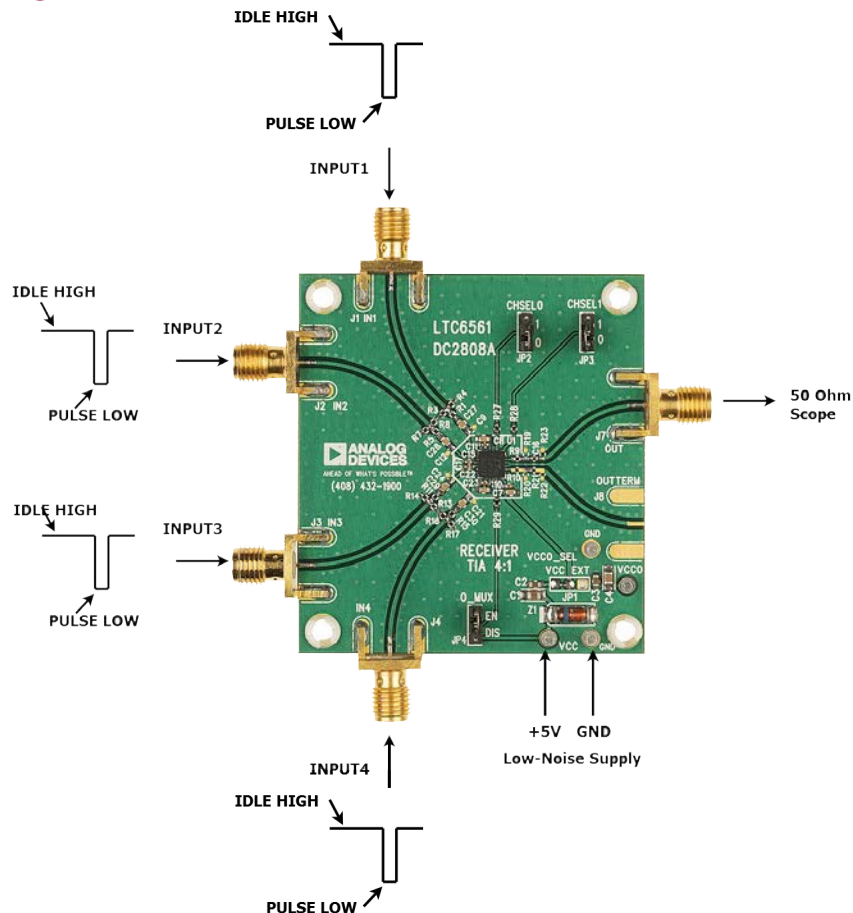

Figure 1. Connection Diagram
- 3) Connect a 5V low-noise power supply shown in Figure 1. VCC0 is hardwired to VCC by default.